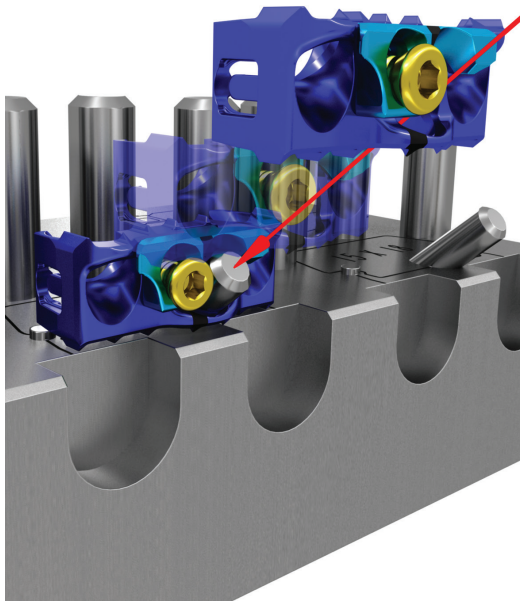

Figure 7
- Select the implant assembly block station to match the chosen implant footprint. Slide the plate over the short, angled pin. Guide the pin into the plate midline hole until the plate sits flat in the appropriate footprint station (Figure 7).